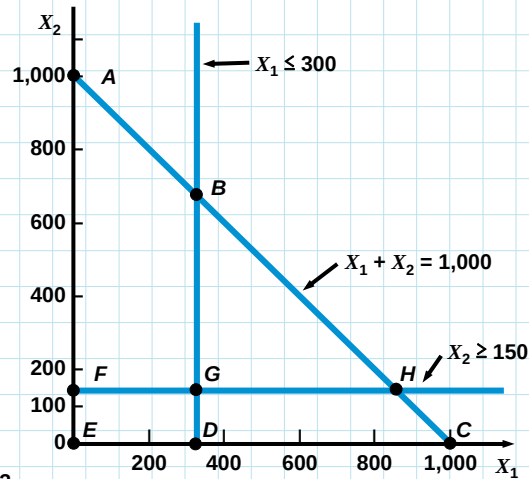

Figure 9.3
- Because there are only two decision variables, we can plot the constraints and the feasible region as shown in Figure 9.3